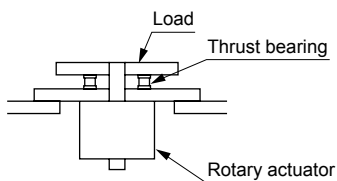

Fig. 1
Therefore, do not apply a load in excess of the allowable value. If this is unavoidable, use a structure with a thrust bearing as shown in Fig.1.
- (1) First loosen the hexagon nut as shown in Fig. 1.